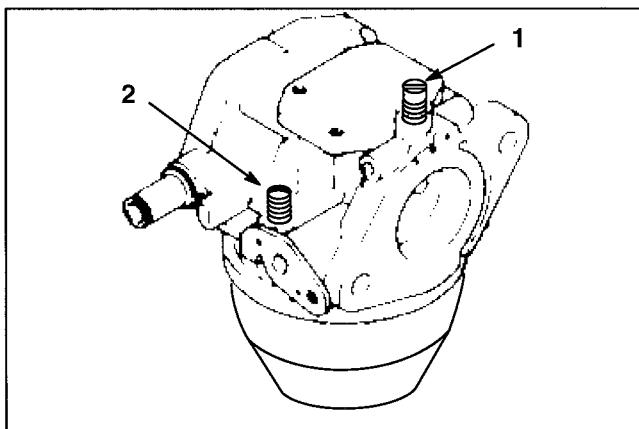

Figure 22
1. **Idle Fuel Adjusting Needle** (Fig. 22) - Close needle by gently rotating it clockwise.
2. Rotate - open - the needle 1 turn counterclockwise (Fig. 22).
4. **Idle Speed Setting** - Move the throttle control to SLOW setting. Set the idle speed to 1200 rpm  $\pm$  75 RPM by turning the idle speed adjusting screw in or out (Fig. 22). Check speed with a tachometer.